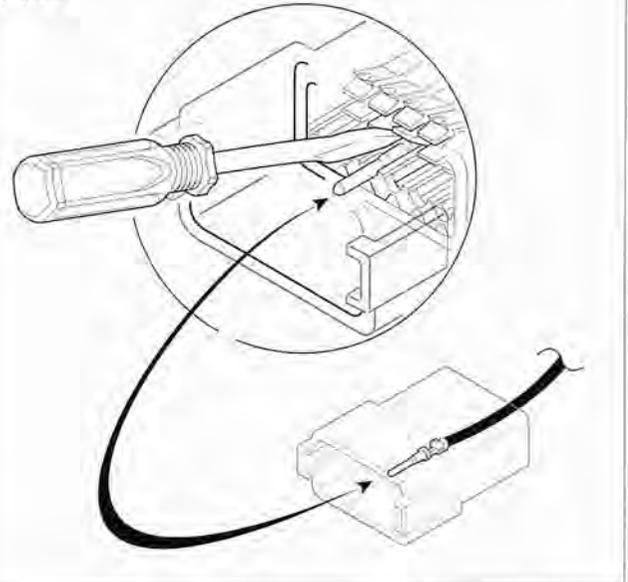

Figure A-30. Deutsch DT Sealed Connector: Depress Terminal Latch and Back Out Pin
- See Figure A-30. Use a pick or small screwdriver to Press terminal latches inside socket housing and back out sockets through holes in rear wire seal.